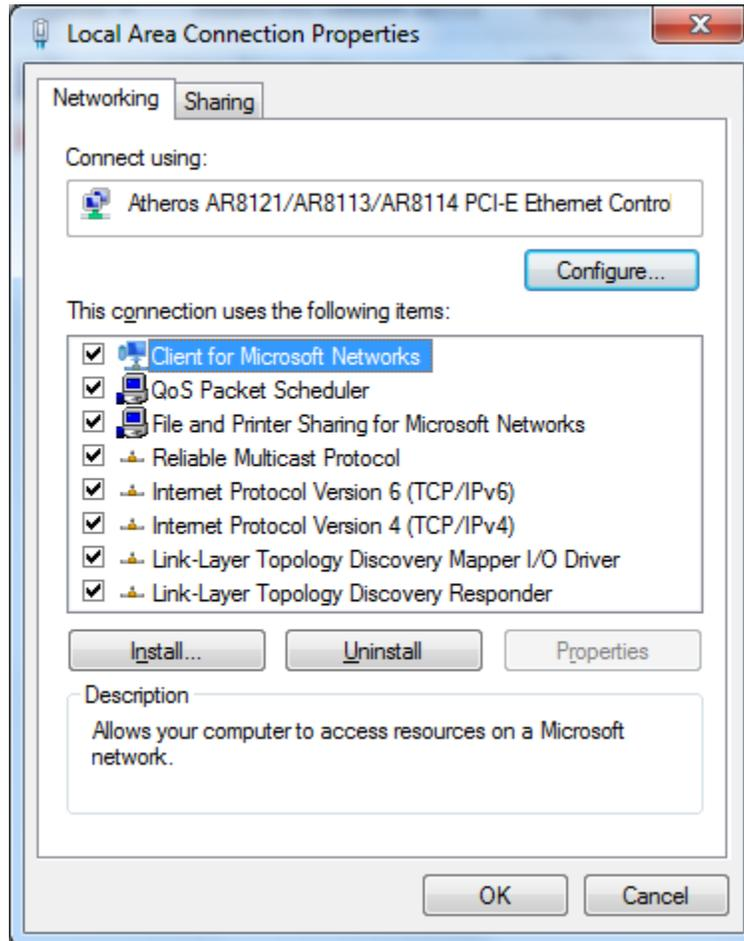

Figure C9. Windows 7 configuration for fixed IP address screen 3
3. Right-click on “Local Area Connection” and click on “Properties” in the drop-down menu, which will take you to a screen shown in Figure C9: